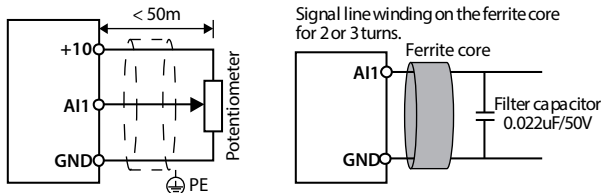
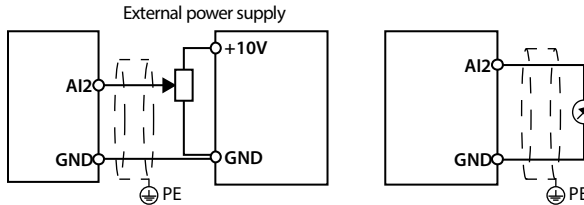

Figure 4-9 AI1 connection
Figure 4-10 AI2 connection
The AI1 is voltage input and the range is 0 - 10V, as shown in Figure 4-9.
2. In serious interference occasions, the analogue input signal should add filter capacitor and ferrite core, as shown in Figure 4-9.
AI2 can be selected as voltage input and the range is 0 - 10V. When selecting internal +10V of HD3N, refer to Figure 4-9; selecting 10V external supply, refer to Figure 4-10.
AI2 can be selected as current input and the range is 0 - 20mA, refer to Figure 4-10.